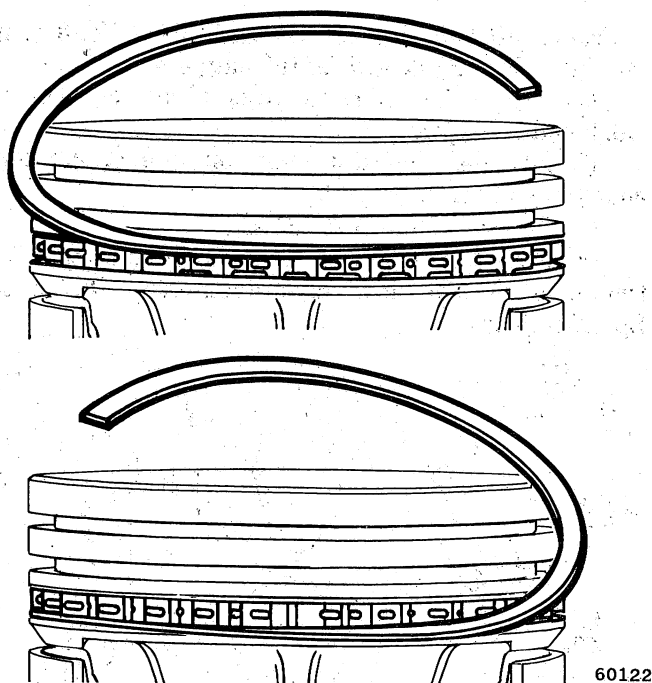

Fig. 1B-142 Installing Oil Control Ring Upper and Lower Rails
(2) Install bottom compression ring using ring installer to expand ring around piston (fig. 1B-143).